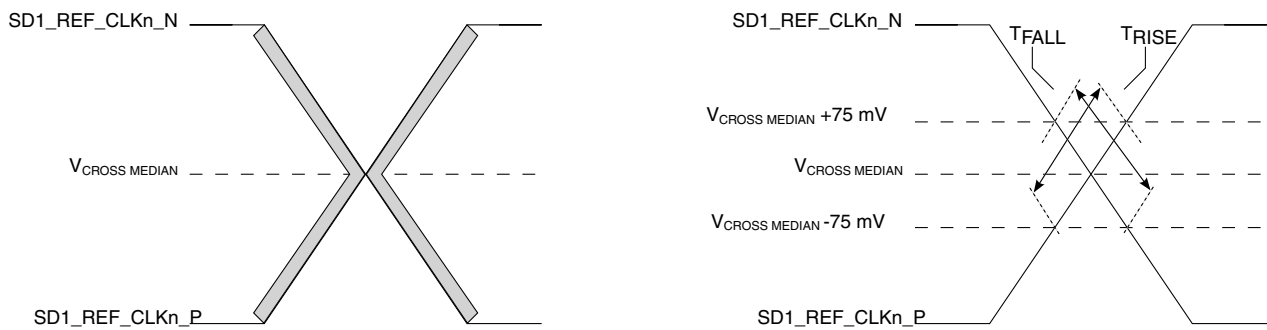

Figure 68. Single-ended measurement points for rise and fall time matching
11. Matching applies to rising edge for SD1_REF_CLKn_P and falling edge rate for SD1_REF_CLKn_N. It is measured using a ±75 mV window centered on the median cross point where SD1_REF_CLKn_P rising meets SD1_REF_CLKn_N falling. The median cross point is used to calculate the voltage thresholds that the oscilloscope uses for the edge rate calculations. The rise edge rate of SD1_REF_CLKn_P must be compared to the fall edge rate of SD1_REF_CLKn_N, the maximum allowed difference should not exceed 20% of the slowest edge rate. See Figure 68.